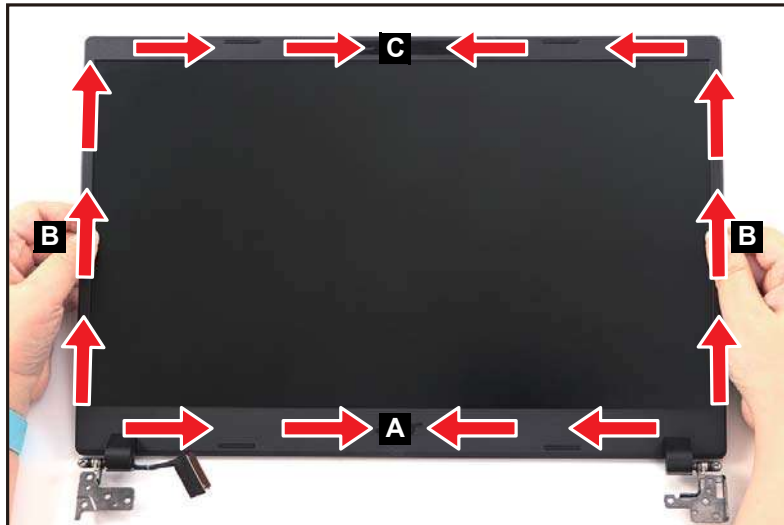

Figure 3-84. Replacing the LCD Bezel
2. Start pressing along the bottom side (A) of the LCD bezel to secure the latches to the LCD cover (Figure 3-84).
3. Continue pressing upward along the left and right sides (B) of the LCD bezel to engage the latches (Figure 3-84).
4. Finally, press along the upper side (C) of the LCD bezel to fully secure the bezel to the LCD cover (Figure 3-84).
When pressing on the latches, make sure to follow the direction of the arrows (Figure 3-84).